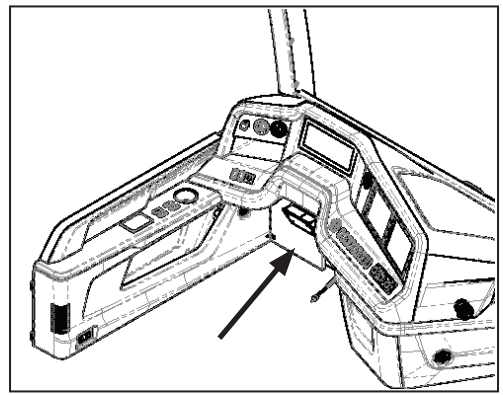

Figure 1
6. Locate and remove the black, vinyl wrapped access panel found to the left-hand side of the steering column, at floor level, see Figures 1 and 2.